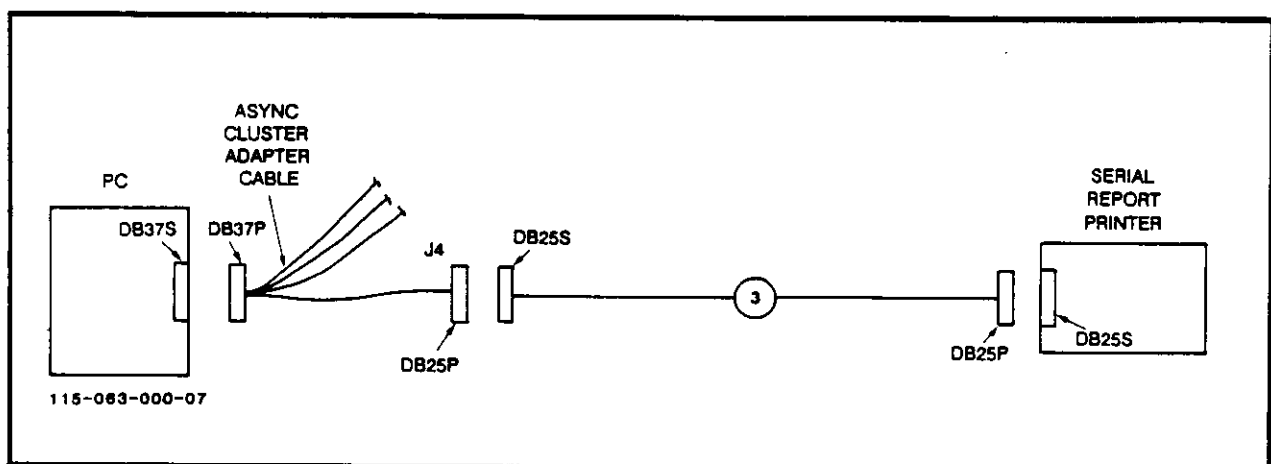

Figure 3-7. Local Report Printer Connection
6.01 If you have a local cable kit, refer to Figure 3-7 and follow the steps below to connect it.